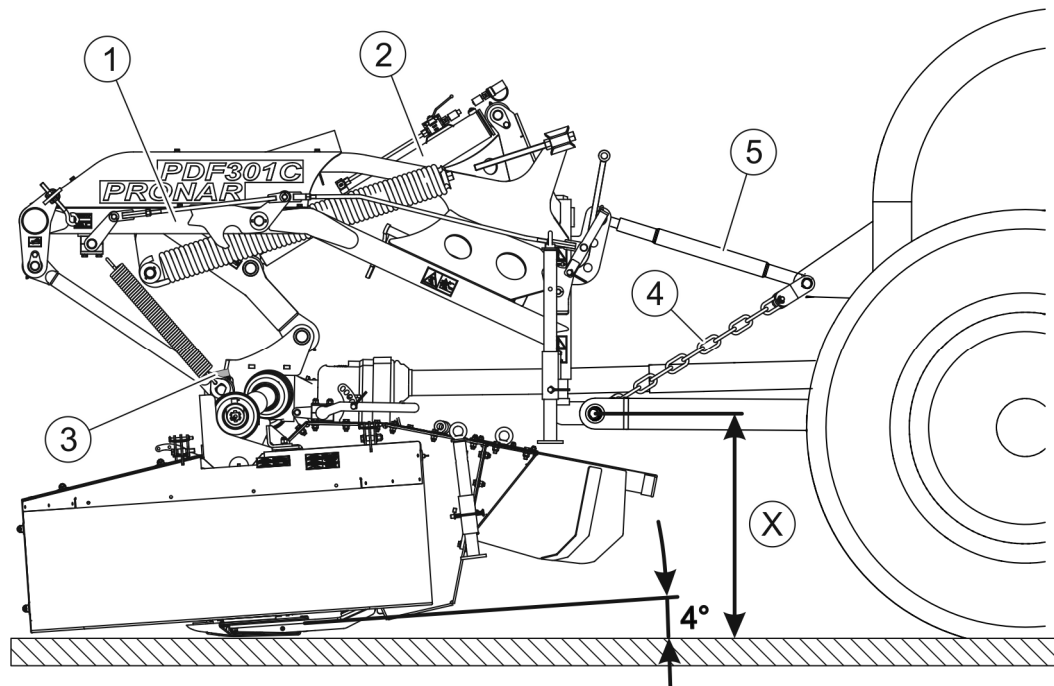
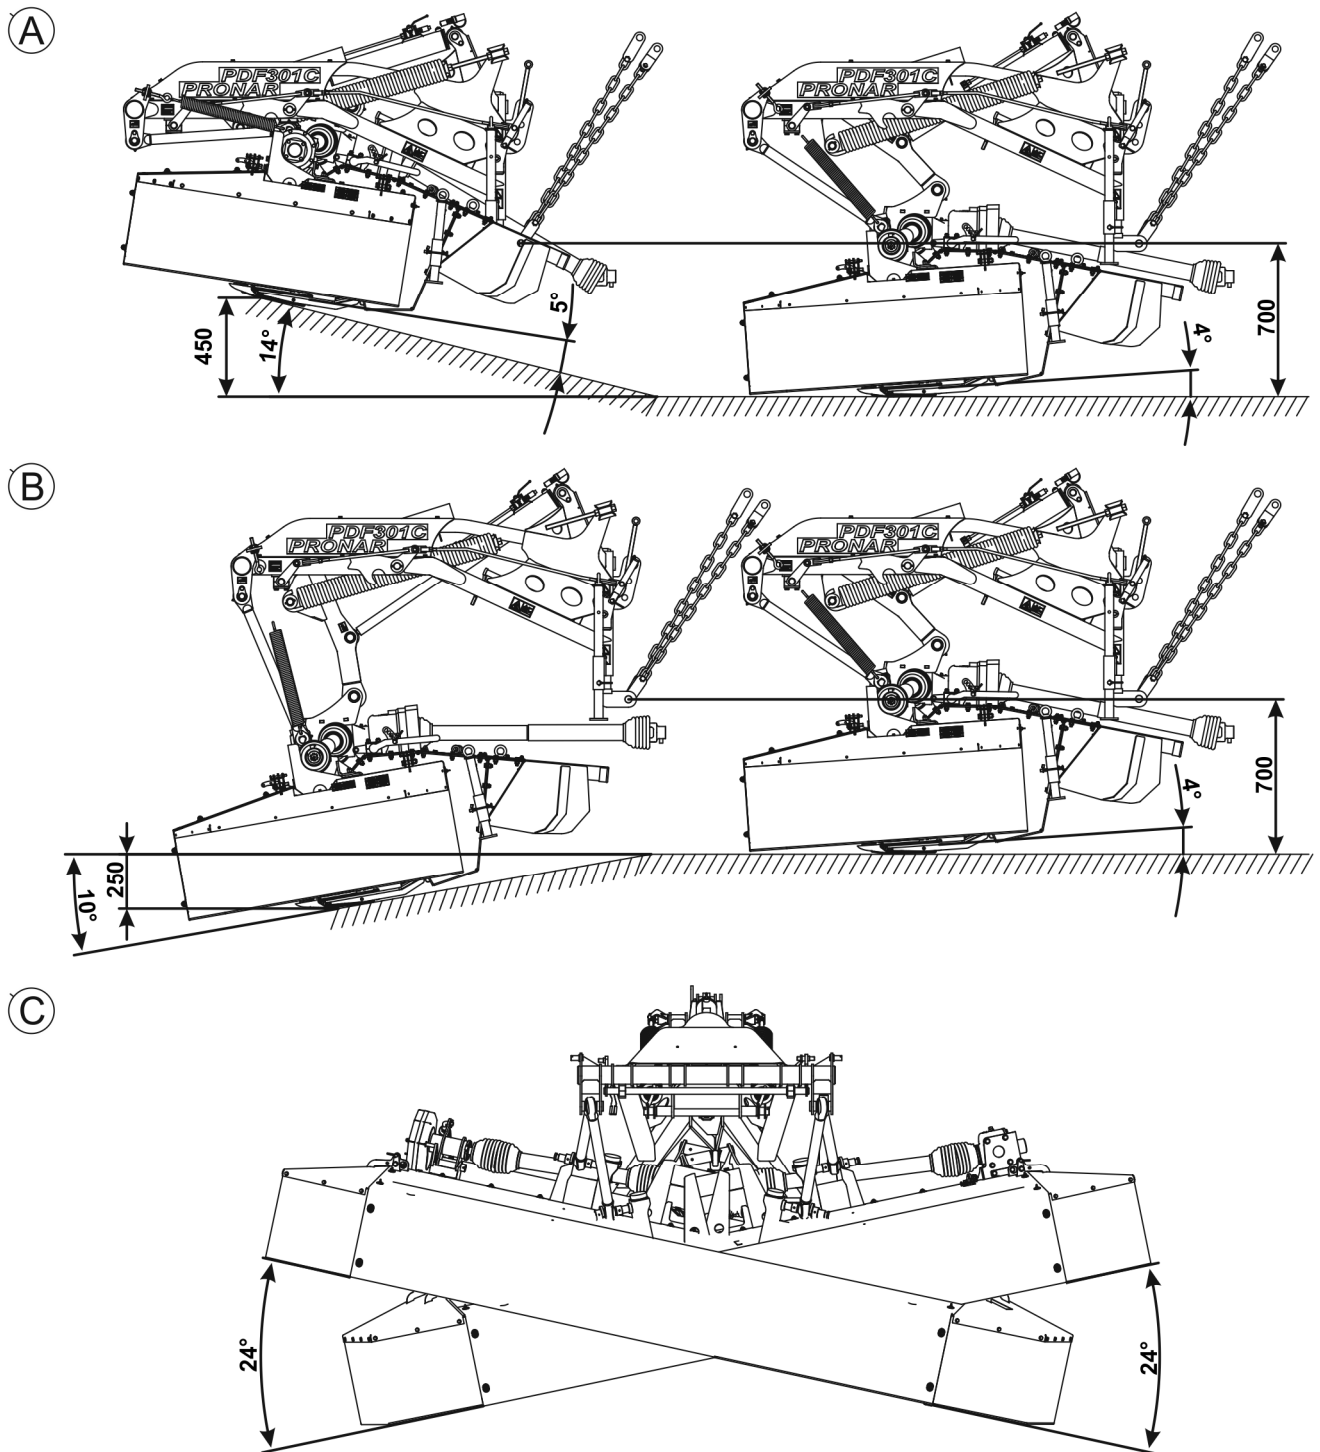

FIGURE 4.5 Mower base position
FIGURE 4.6 Front mower working positions
(1) linkage frame, (2) hydraulic cylinder, (3) tension rod, (4) rubber fender, (4) relief chains, (5) top tension rod, (X) recommended distance 700 mm.
The machine cutting unit is capable of moving up and down in relation to the linkage frame. Such a solution enables the cutting unit to respond to unevenness of the mown field, when the linkage frame (1) moves according to the movements of the tractor. For the mower to work optimally set it to the base position (FIGURE 4.5) recommended by the Manufacturer. In order to set it:
- set tractor lower three-point linkage tension rods at a height (X) of approximately 700mm (adjust the length of relief chains (4)),
- set the mowing height by shortening or lengthening the top tension rod (5),
If terrain in front of mower is inclined downward then the cutting unit moves downward in relation to the frame (B) (FIGURE 4.6). This motion causes the cutter bar to turn forward maintaining the same height of stubble. When tracking terrain, the cutter bar can be set at a maximal angle of 10° (C) to the ground.
If the terrain in front of the machine is inclined upward, the cutting unit moves upward until its rubber fender (3) rests on the linkage frame beam (1) (FIGURE 4.5). During this motion cutter bar turns back maintaining the same stubble height and reducing the risk of blades coming into contact with the ground. Cutter bar tipping angle in relation to the ground can reach a maximum 14° (A) (FIGURE 4.6).
In certain conditions it may be necessary to increase or reduce the cutting height. Changes of setting are made by shortening or lengthening the top tension rod (5) (FIGURE 4.5). Lengthening top tension rod reduces the cutting height and shortening increases the cutting height. When adjusting cutting height it may be necessary to set the top tension rod to a different position in the triangular hitching system.
The cutting unit can be moved within range of 700 mm w vertically; by 250mm (B) downward and 450mm (A) upward from the base position (FIGURE 4.6). The hydraulic cylinder (2) limits downward motion, while the rubber bumper (3) (FIGURE 4.5) sets the upper limit.
- Using tractor three-point linkage raise the mower to set it in cutting position – FIGURE 4.5).